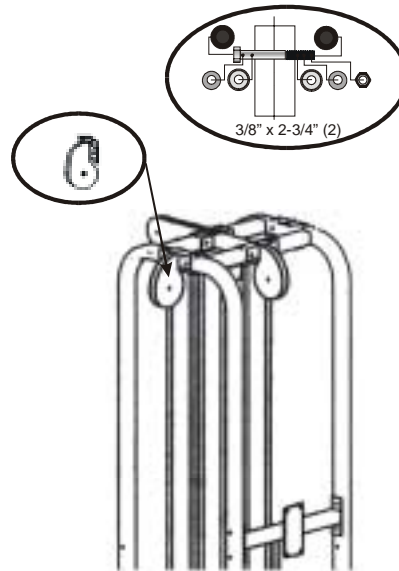
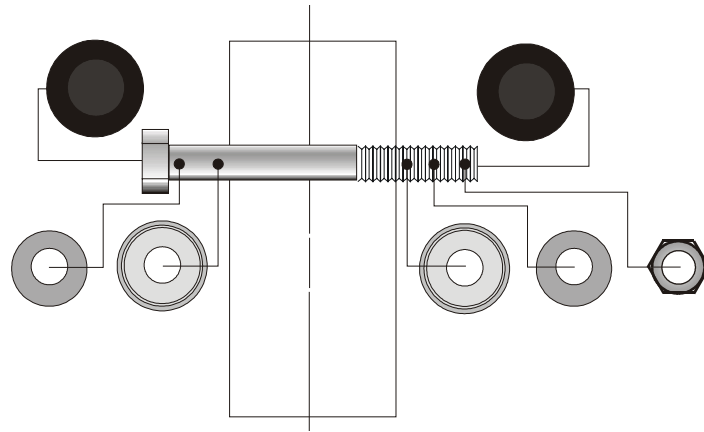

Figure 4. Bolt on the teardrop pulley.
Figure 5. Configuration for 2-3/4" and 3" bolts.
2. **Bolt on the teardrop pulley** above the bench (see Figure 4) on the 4 stack cell using two 3/8" x 2-3/4" hex head bolts. Include the 3/8" flat washer, end cap washers, end caps and 3/8" Nyloc nut. Use the bolt configuration shown in Figure 5. You may wish to use a pinch bar to align the bolt holes.
Hardware Figure 5. Top assemblies.